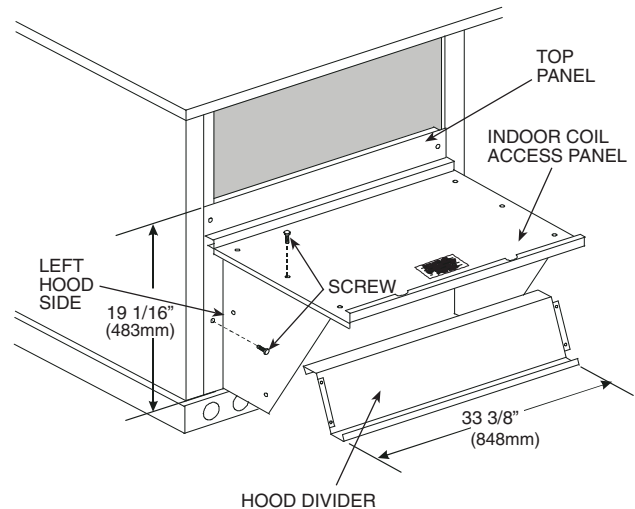

**Fig. 18 — Economizer Hood Construction
2. Swing out indoor coil access panel and insert the hood sides under the panel (hood top). Use the screws provided to attach the hood sides to the hood top. Use screws provided to attach the hood sides to the unit. See Fig. 18.
4. Insert the hood divider between the hood sides. See Fig. 18 and 19. Secure hood divider with 2 screws on each hood side. The hood divider is also used as the bottom filter rack for the aluminum filter.